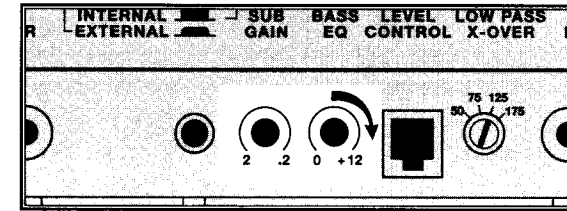

Figure 7 - Bass Controls
5. If you desire more Bass output, adjust the "Bass EQ" level clockwise. The adjustment range is from "0" to "+12 dB". We recommend using as little Bass EQ as possible. Remember, boosting +12 dB at 45Hz requires the amplifier to work 16 times harder! (See Figure 7).